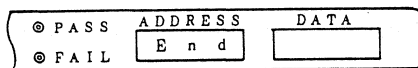

Fig. 4.15
- ⑤ Press the + key or the A-ENT key. At this time, the PAE command terminates with the indication shown in Fig. 4.15.